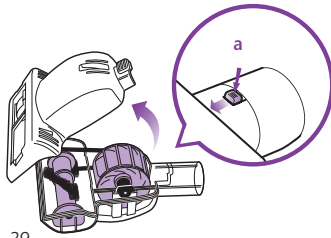

Fig. 29
- 1 Slide the locking latch (a) forward and tilt the bottom cover upward to remove. (Fig. 29)